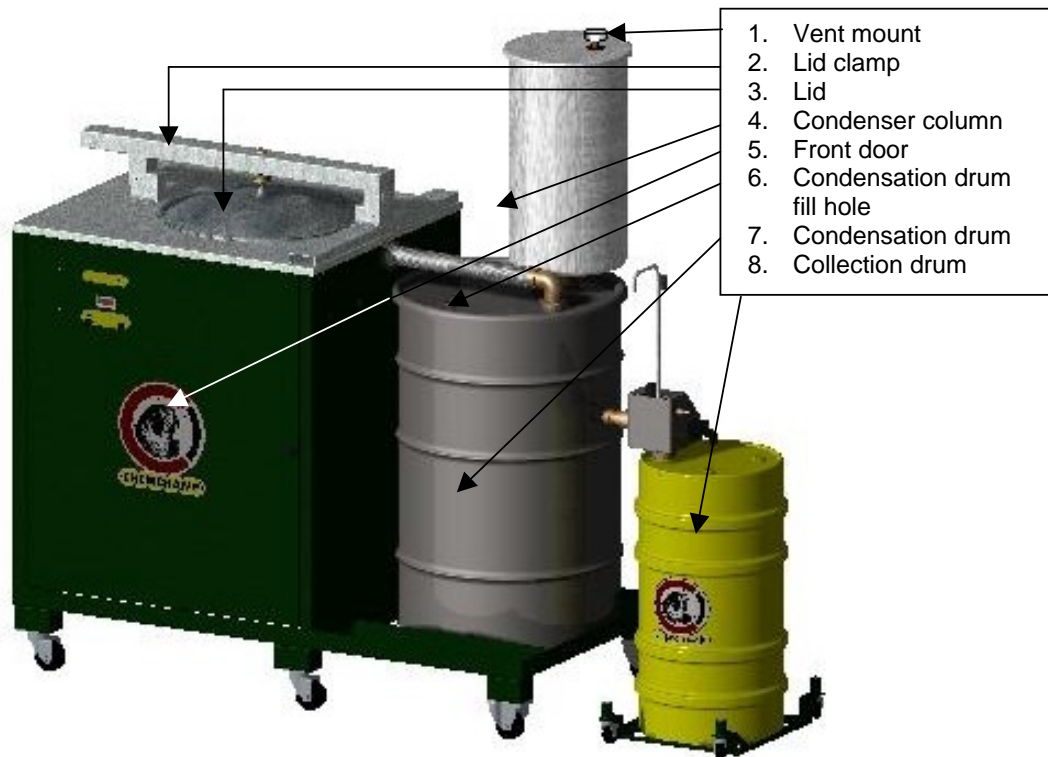

Figure 1
13. Unit must be operated with the provided collection drum connected to the condensation drum. (see figure 1)